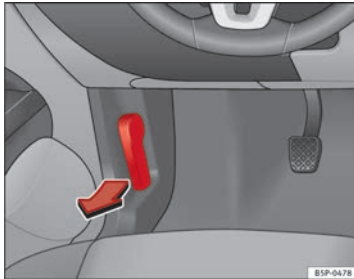

Fig. 160 Detail of footwell area on driver side: lever for unlocking the bonnet.
- To release the bonnet, pull the lever under the dash panel ⇒ Fig. 160 in the direction indicated (arrow). The bonnet will be released by a spring action ⇒ ⚠.